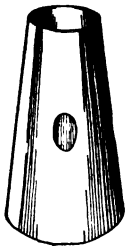

FIG. 143. Egg tester.
**255. Egg Tester.** An egg tester is a device for looking thru eggs to ascertain whether or not they are good. It consists of some device to keep all bright light away from the eyes except a few bright rays shining thru the egg. The hole should be about an inch long and three-fourths of an inch wide. A metal chimney with one such opening in the side used in a darkened room serves as an egg tester. A large piece of cardboard tacked over a sunny basement window is sometimes used, the hole being cut in the cardboard (Fig. 143).